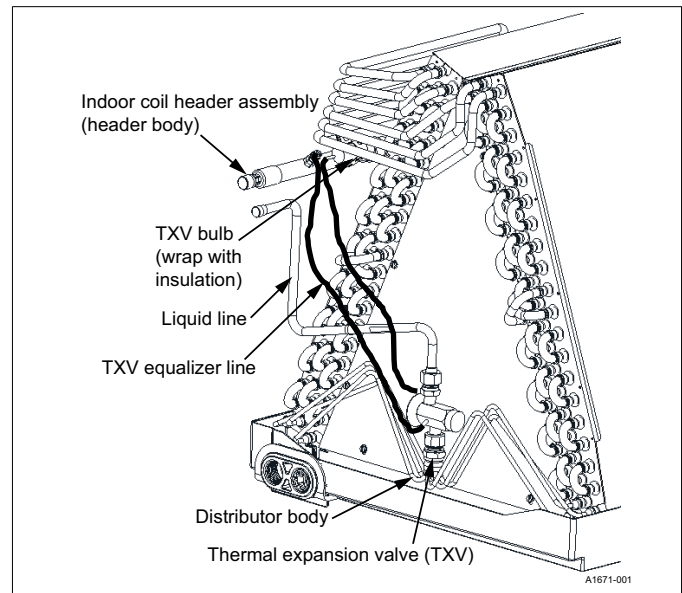

Figure 4: TXV bulb and equalizer line installation (A-coil)
7. Route the temperature sensing bulb tube for the TXV toward the vapor line header and the TXV equalizer tube connection port on the vapor line header. See **Figure 4**.